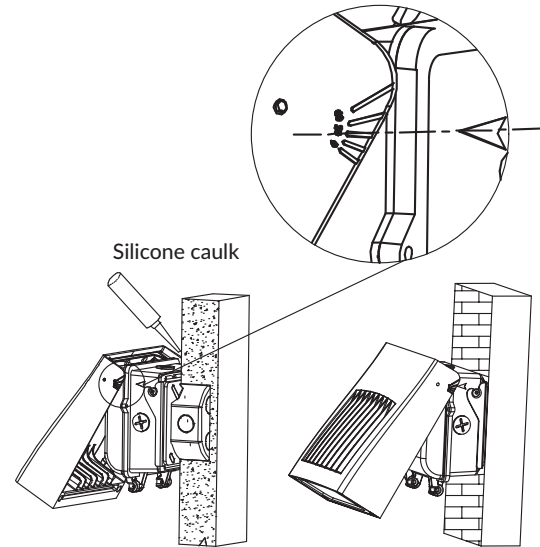

Figure 9
- Applying silicone caulk around the perimeter of the driver box where it meets the wall to ensure a water-tight seal. Finally adjust the fixture head angle BACK TO 0° (FACING DOWN) and secure it by locking the side hex screw and installation is complete. (figure 9).